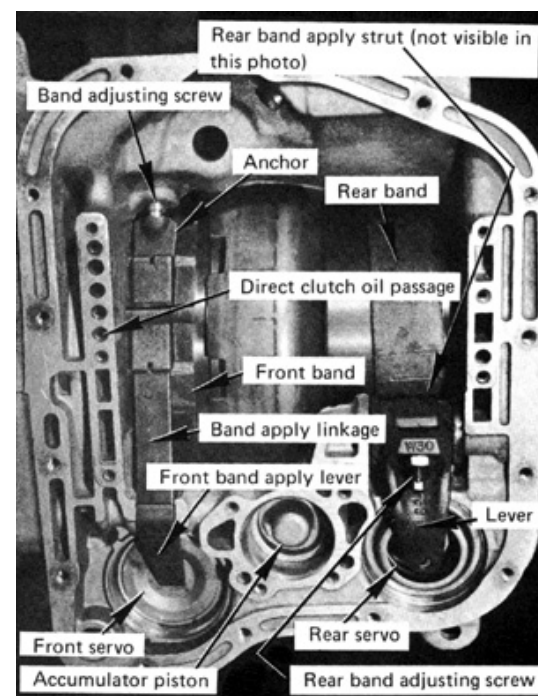

FIGURE 5
STEP 4. Front band and servo. (See Fig. 5.) Loosen the band adjusting screw located on the front driver's side of the case just above the cooler line fitting. Back the adjusting screw out until you can remove the band apply linkage. This will allow the band apply lever to rotate down and gain access to the front servo. Inspect the servo face to determine which type you have.
STEP 10. Accumulator Piston: The accumulator piston is located in the case between the front and rear servos. (See Fig. 5.) Remove the piston by pulling straight down. There will be a small amount of oil behind the piston, so be careful you don't get splattered. If there is a spring behind the accumulator piston, remove and discard it.
Install furnished cupped orifice plug into direct clutch oil passage in front of case. (See Fig. 5.) Tap plug in place with a punch until it is below the case surface.